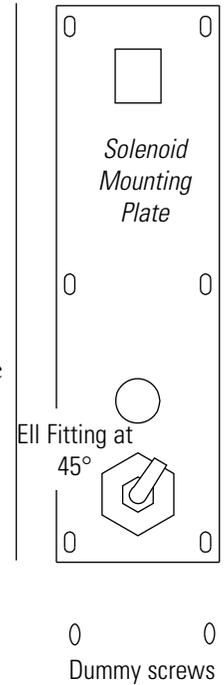

Figure 2.
3. For Models 740, 741, 7400 and 7401, remove the fourteen (14) screws holding the rear cover plate to the back panel. For all other models, remove the twelve (12) screws holding each of the electrical and solenoid cover plates to the back panel.
4. Remove the brass 90° ell fitting and brass nut from the solenoid mounting plate on the back right side of the unit (Figure 2).
5. Remove the six (6) screws holding the plastic solenoid mounting plate to the back panel and the two (2) dummy screws directly below it.